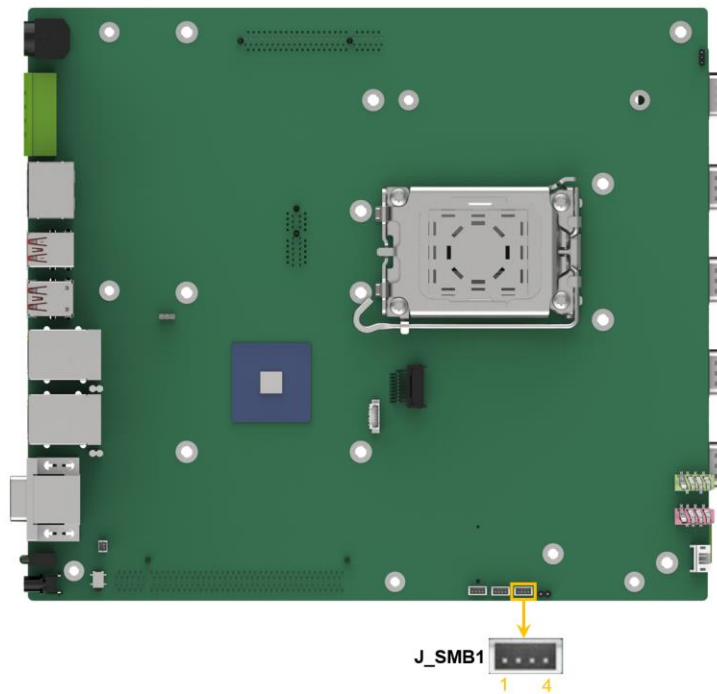

Figure 4-6: SMBus Connector Location
- CN Location:** See Figure 4-6